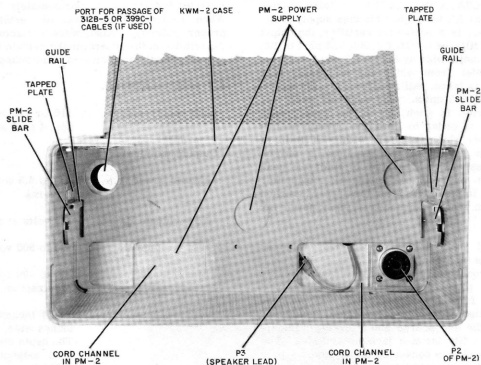

Figure 2. Installing Guide Rails
## 2.1 INSTALLATION. (Refer to figures 2 and 8.)
b. Slide the PM-2 and KWM-2 together as shown in figure 2. In turn, set each guide rail over the PM-2 slide bar, and mark the perforations which align with the holes in the guide rails. These guide rails must be mounted on the inside of the KWM-2 case as shown in figure 2.